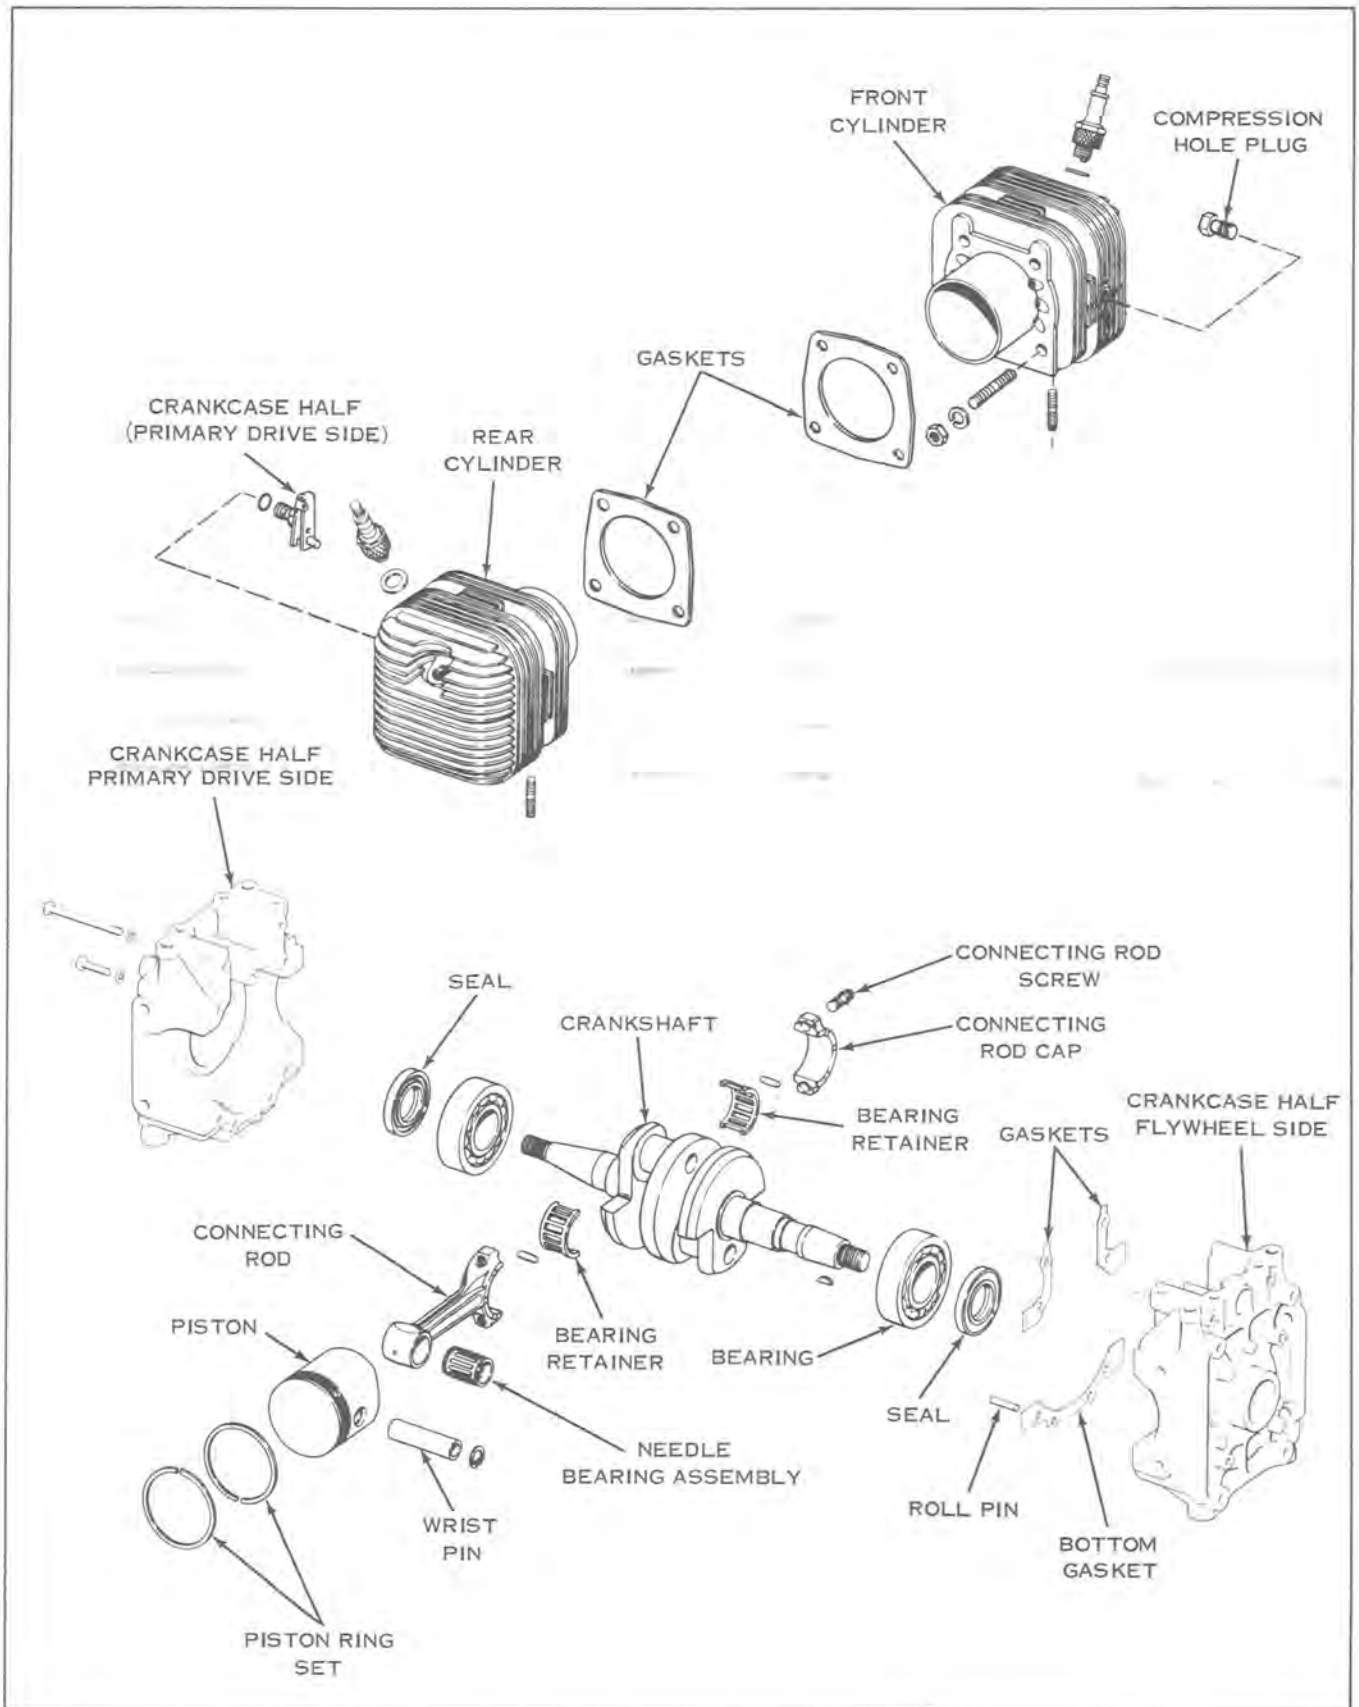

Figure 9-6
- g. Remove the cylinder stud nuts and lockwashers. The cylinder barrel can now be removed from the crankcase. See Figure 9-6.
- b. Assemble exhaust manifolds to cylinder barrels if they were removed. The gasket surfaces on cylinders and manifolds must be clean and smooth. Place new exhaust manifold gaskets over cylinder studs and assemble exhaust manifolds. See Figure 9-6.